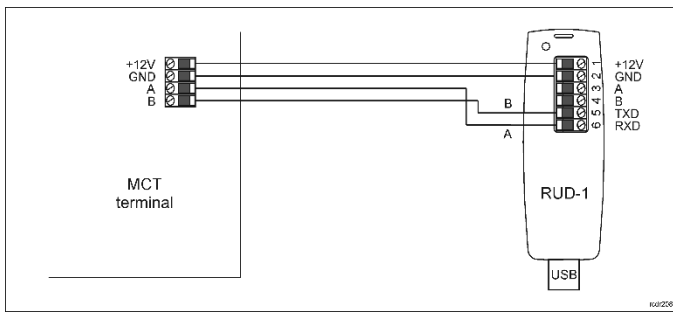

Fig. 2 Connection of MCT device to RUD-1 interface (firmware update)
The firmware of device can be changed to newer or older version. The update requires connection to computer with RUD-1 interface (fig. 2) and starting RogerVDM software. The latest firmware file is available at www.roger.pl.
1. Connect the device to RUD-1 interface (fig. 2) and connect the RUD-1 to computer's USB port.